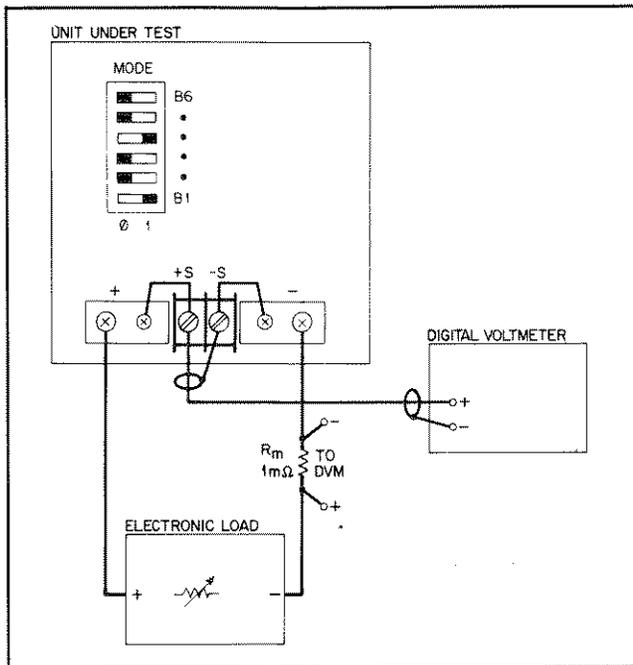

Figure 5-2. Basic Test Setup
**Test points:** See Figure 5-2
- Connect the test equipment as shown in Figure 5-2. Operate the electronic load in constant resistance mode (Amps/Volt) and set resistance to maximum.
**Test Points:** See Figure 5-2
**Test Set-up:** See Figure 5-2
- a. Connect the test equipment as shown in Figure 5-2. Operate the electronic load in constant-current mode and set for minimum current.